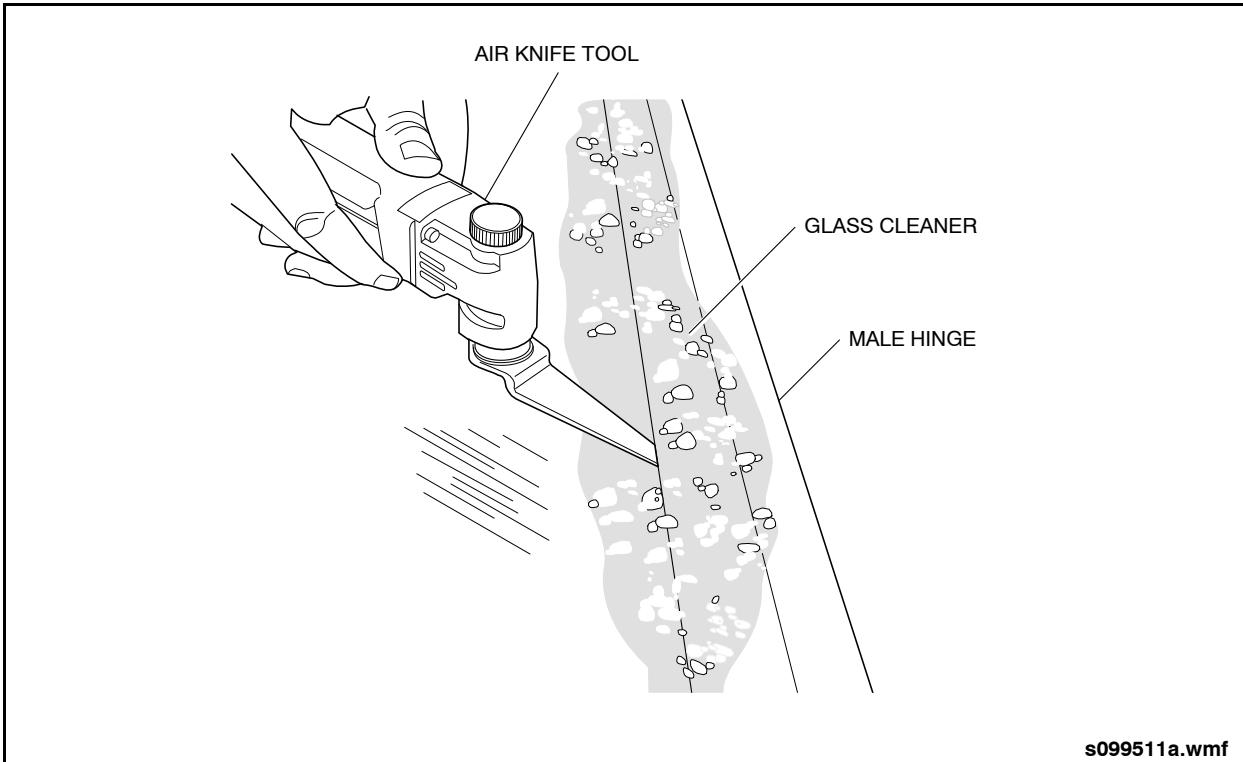

Fig. 14-16: Cutting of Bond Between Male Hinge & Glass
2. Using the air knife cut the bond between the male hinge and the glass. See "Fig. 14-16: Cutting of Bond Between Male Hinge & Glass" on page 20. Slightly lift up on the male hinge to prevent the blade from getting stuck.